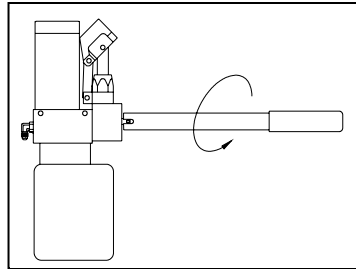

FIGURE 2-11: DEPLOY OR LOWER PLATFORM
- 3) Refer to **Figure 2-11**. Turn valve 1/4 turn COUNTER-CLOCKWISE to begin lowering platform. When platform reaches vehicle interior floor level turn valve CLOCKWISE to close; DO NOT OVER-TIGHTEN VALVE. Do not lower platform below vehicle floor level. The rear edge of in-board rollstop must rest flat on vehicle floor.